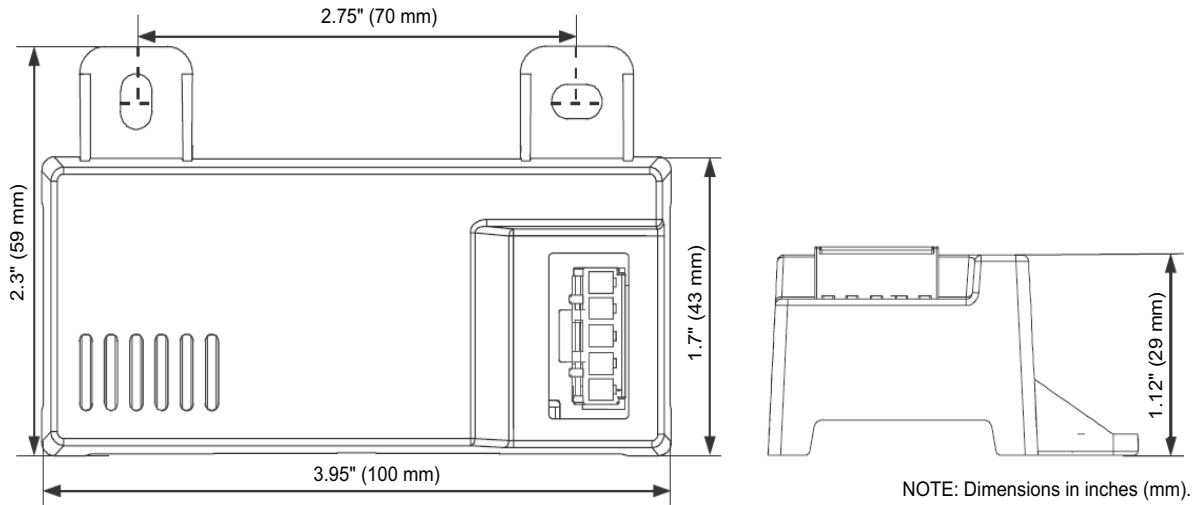
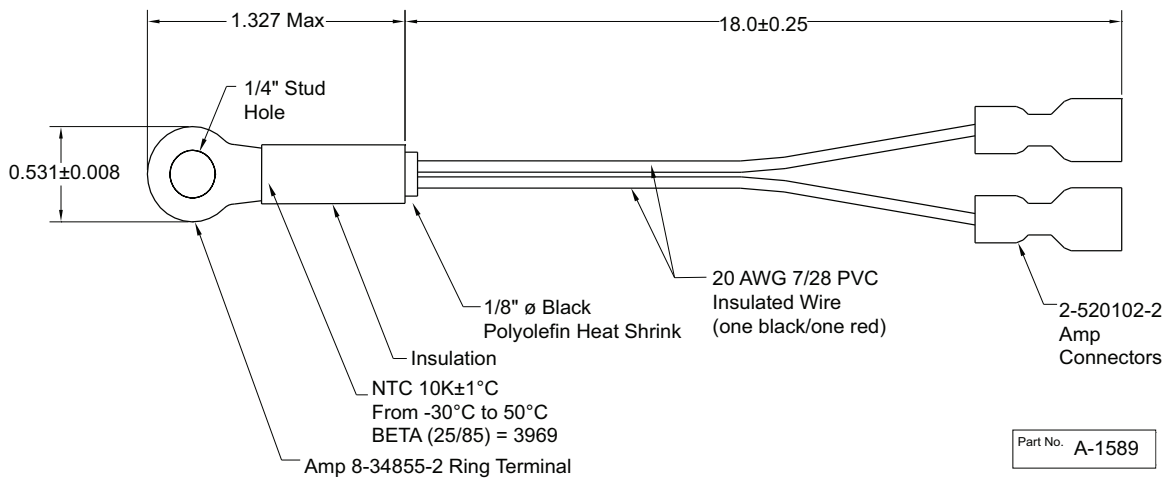
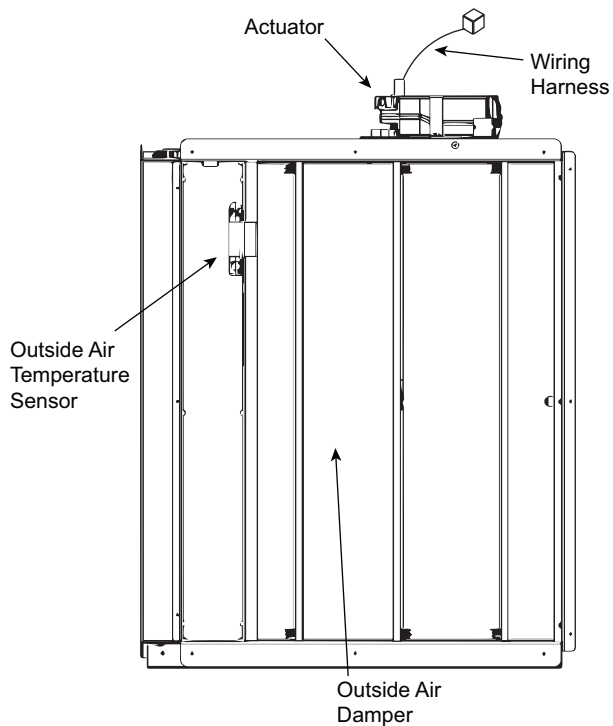

Fig. 71 – HH57LW001 Dimensional, Connection and Switching Information
Fig. 72 – HH79NZ039 Dry Bulb and Mixed Air Sensor Wiring
Fig. 73 – EconomizerONE Component Locations (CRECOMZR108A00 Shown)
When using the HH57LW001 enthalpy sensor (see Fig. 71) for outside air changeover, the existing HH79NZ039 dry bulb sensor (see Fig. 72) must be removed. The enthalpy sensor will be mounted in the same location as the dry bulb sensor (see Fig. 73). When the enthalpy sensor's OA (Outside Air) temperature, enthalpy, and dew point are below their respective setpoints, the outside air can be used for free cooling. When any of these are above the setpoint, free cooling will not be available. Enthalpy setpoints are configurable and create an enthalpy boundary according to the user's input. For additional details, see Fig. 74-75 and Table 31.
The optional enthalpy control sensor (P/N: HH57LW001) communicates with the POL224 economizer controller using the 5-wire harness, 48TC005213. The HH57LW001 sensor can be used as a single outside air enthalpy, a differential return enthalpy, or a differential return temperature sensor. Refer to the base unit control wiring diagrams found earlier in this book to wire the HH57LW001 enthalpy sensor for each option. Use Fig. 71 and Table 33 on page 53 to locate the wiring terminals for each enthalpy control sensor.
Economizers are shipped standard with an HH79NZ039 outside air dry bulb sensor (see Fig. 72). System default setting (high temp limit) is 63°F (17°C) and has a range of 48°F to 80°F (9°C to 27°C). Sensor is factory installed on economizer.
If installing the optional HH57LW001 enthalpy sensor, the HH79NZ039 dry bulb outside air sensor must first be removed. Wire sensor to harness 48TC005213 and the (5) wires from the harness to the EconomizerONE harness in the return air chamber. Harness 48TC005213 has a 5-pin plug that connects directly to the HH57LW001 enthalpy sensor. Refer to the base unit control wiring diagrams earlier in this book for wiring connections. Refer to Fig. 71 and Table 33.